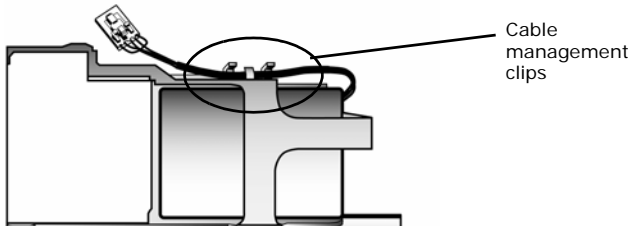

Figure 5. Battery cable inserted through cable management clips
- 4 Make sure the battery cable is fastened under the cable management clips, as shown in Figure 5.